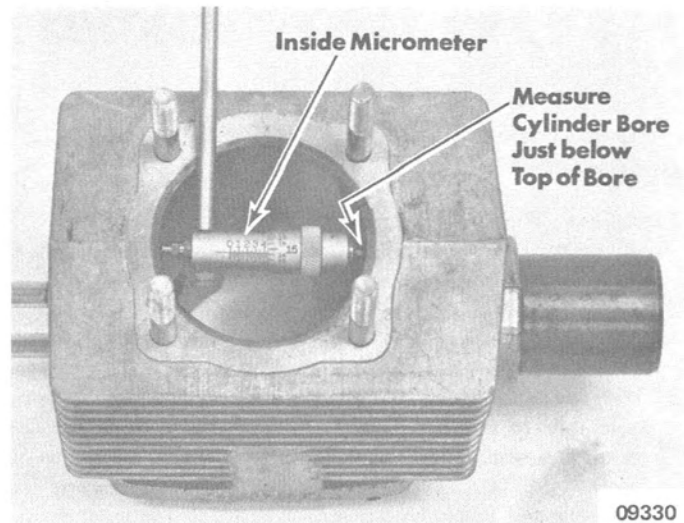

Figure 4. Measuring Cylinder
2. Measure cylinder bore diameter (with an inside micrometer) just below top of bore. (Figure 4) Perform measurements at right angles ( $90^{\circ}$ ) to each other and check for an out-of-round ("egg shaped") condition.